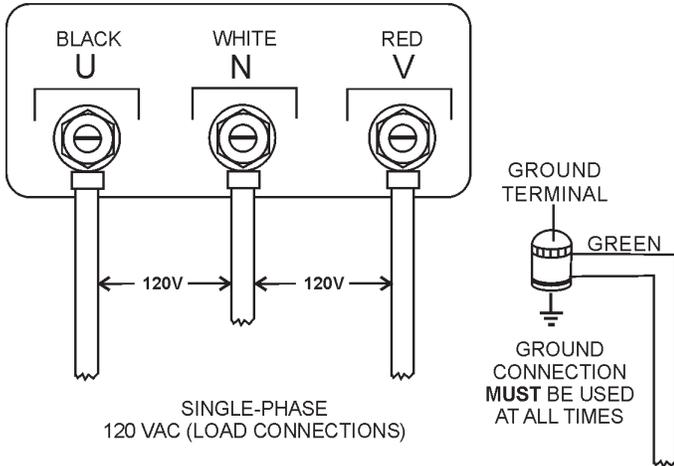

Figure 12. Output Terminal Lugs 120 VAC Single Phase Connections
1. Connect the load wires to the **Output Terminal Lugs** as shown in (Figure 12)